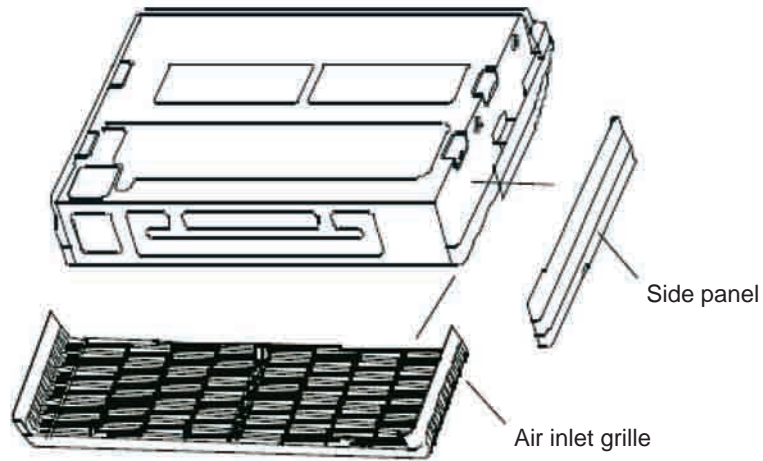

Fig. 3.2.10
1. As it is shown in Fig. 3.2.10 on the following page, remove covering side panel on both sides (right and left) and air inlet grille.